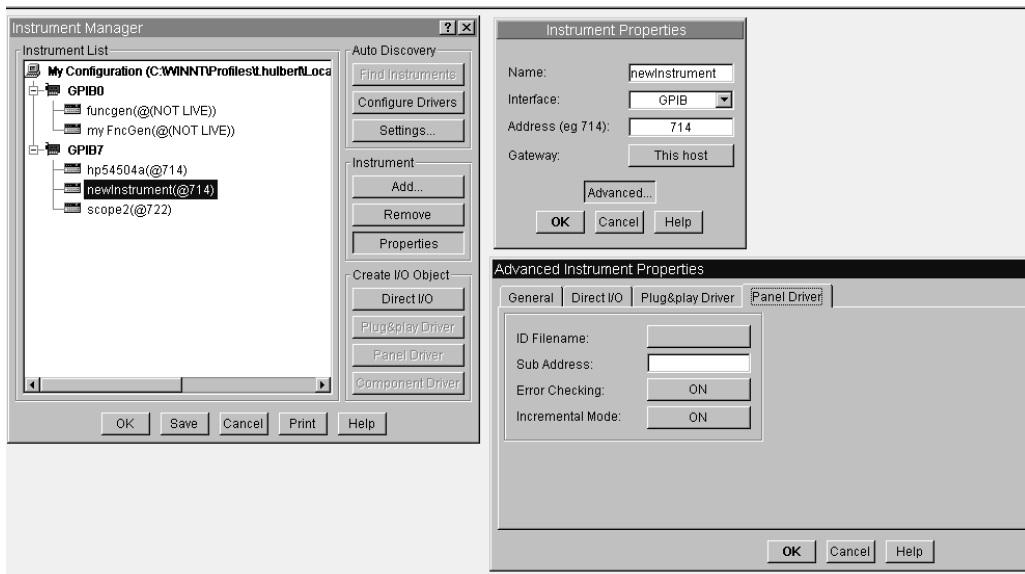

Figure 3.2. Instrument Manager programmed for a virtual scope
13. Scroll horizontally until you reach hp54504a.cid; click on it. See Figure 3.2 which contains all the dialog boxes open.